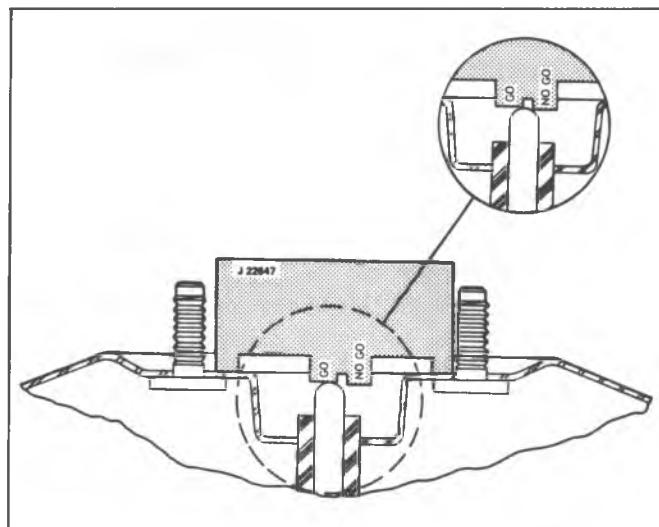

Fig. 5-14A--Gaging Piston Rod
5. Place Gage J-22647 over the piston rod in a position which will allow the gage to be slipped to the left or right without contacting the studs (fig. 5-14A).